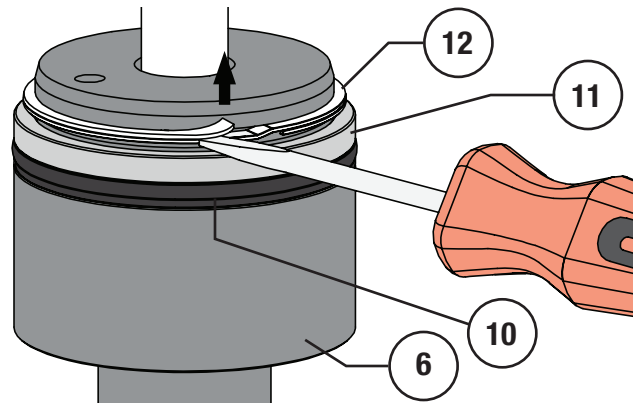

Figure 12 Packing Parts Removal (Steps 1 - 2)
- Carefully remove the retaining ring (Key 12) from the plug groove, a pick set or flat screw driver may be required to separate the coiled rings. Refer to Figure 12.